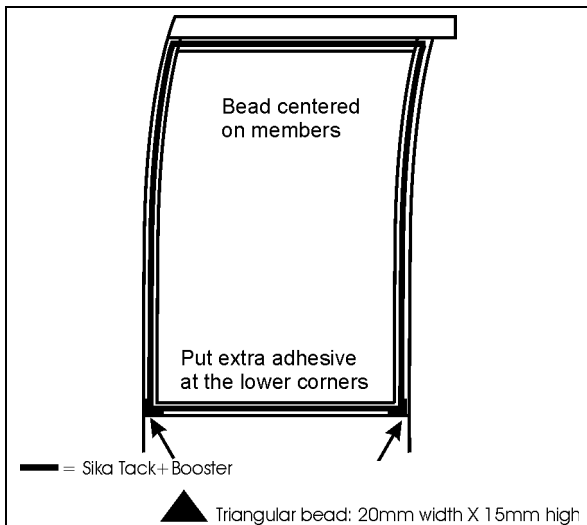
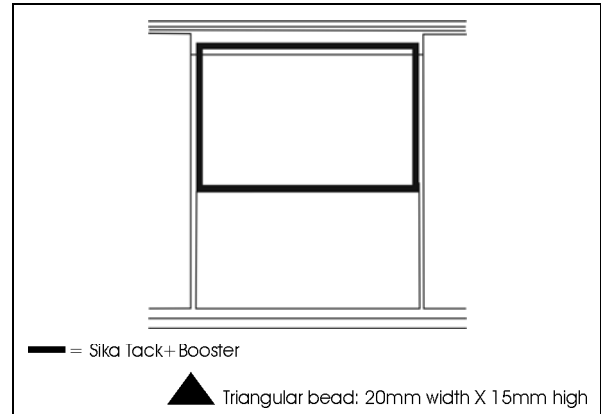

FIGURE 60 : SIDE WINDOW – SIKA TACK + BOOSTER
FIGURE 61 : HALF-WINDOW INSTALLATION – SIKA TACK+BOOSTER
10. Apply Sika Tack+Booster (triangular bead: 20mm width X 15mm high) as per FIGURE 60 (side window) or FIGURE 61 (half-window) [20mm≈13/16"] [15mm≈19/32"];